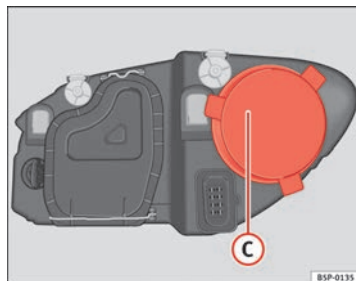

Fig. 189 Main beam headlights
- Remove the cover ⇒ Fig. 189 ① by pulling on this.